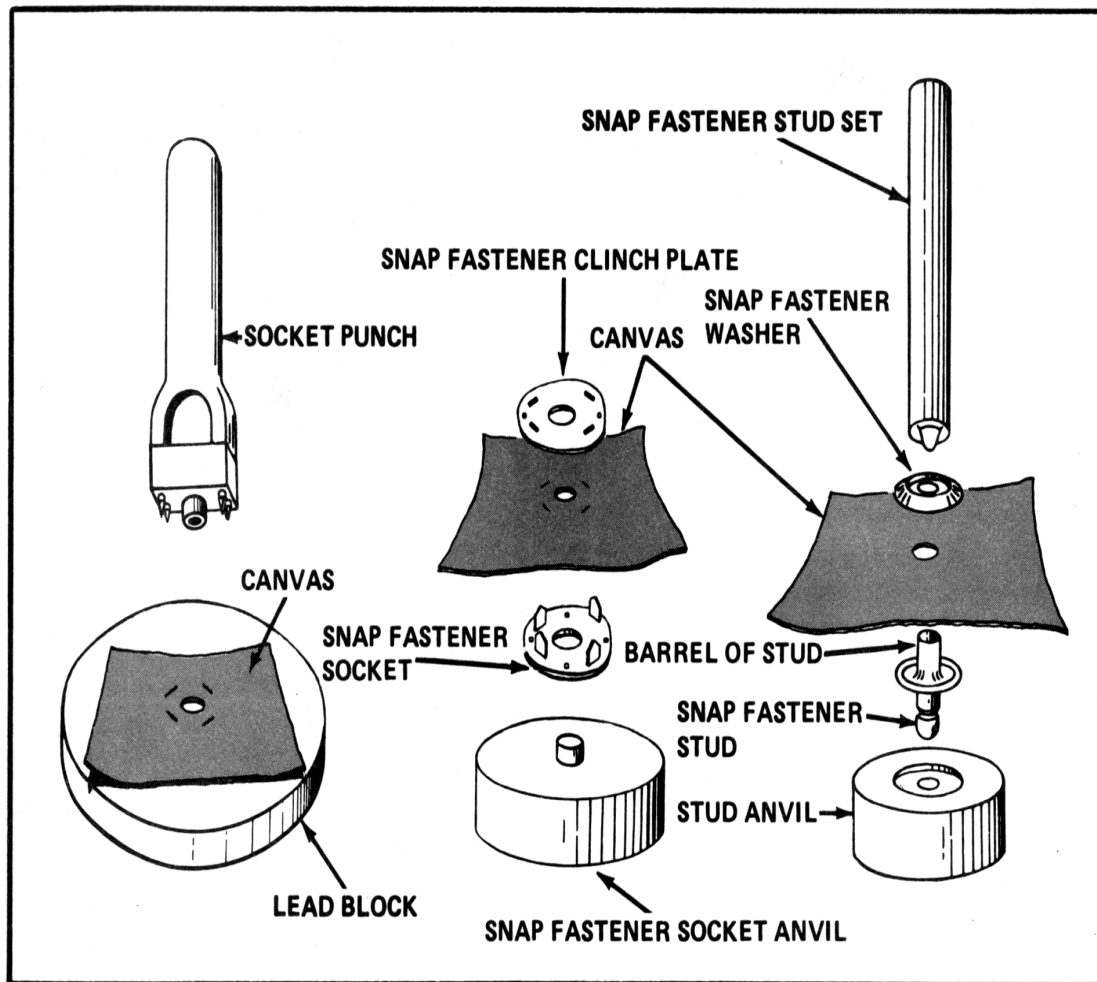

Figure 12-9. Replacing a type 1 snap fastener
a. **Style 1 Snap Fastener.** A style 1 snap fastener has two sections, a female half and a male half. The female half has two parts, a socket and a clinch plate. The male half also has two parts, a stud and a washer. The stud is available in two sizes, single and double. The double stud is twice as long as the single stud and can hold an additional layer of canvas. To install a style 1 snap fastener (Figure 12-9)--
(1) Obtain a style 1 snap fastener, chalk, socket punch, socket anvil, hole punch, stud set, stud anvil, rawhide mallet, and lead block.
(2) Remove the old snap fastener, and patch or replace the canvas if necessary.
(3) Mark with chalk the exact position of the hole for the female half of the snap fastener.
(4) Place the canvas over the lead block so that the chalk mark is centered on the block.
(5) Center the socket punch over the chalk mark.
(6) Hit the socket punch with a rawhide mallet to make slots for the socket prongs and a center hole.
(7) Insert the socket prongs into the slits through the underside of the canvas.